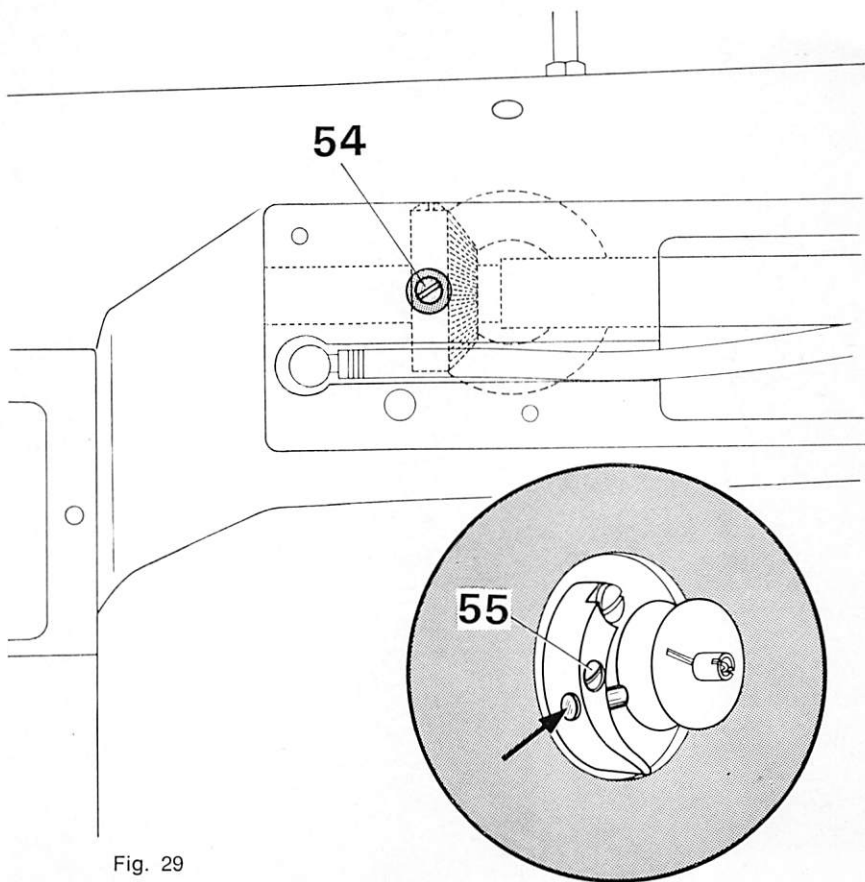

Fig. 29
27. Adjusting the Bobbin Winder Pulley (Fig. 29)
- 27.6 Loosen screw **55** of the regulating stud in the bobbin winder latch (see circle of Fig. 29).